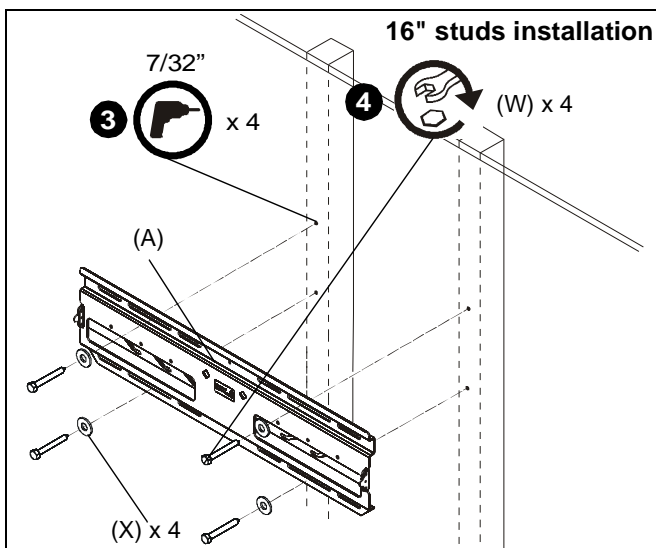
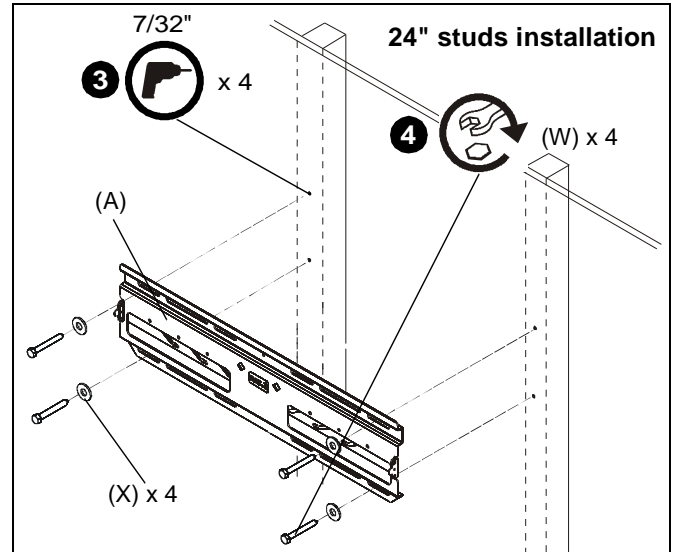

Figure 1
Figure 2
1. Determine a suitable mounting location and lift the wall plate (A) into mounting position on wall.
2. Using a small nail or screw (not provided) in the center hole, lightly support the wall plate at the mounting location. (See Figure 1)
3. Level the wall plate (A) and drill 7/32" pilot holes for anchoring the wall plate. Holes must be drilled at the center of wood studs. (See Figure 1) or (See Figure 2)
4. Using four 5/16 x 3 1/2" lag bolts (W) and four 5/16" washers (X), install the wall plate (A) on the wall. (See Figure 1) or (See Figure 2)